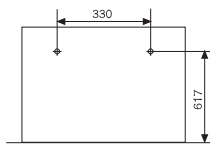

Figure.2
- According to the dimension of the Figure 2 shown nail two cement steel nails on the wall keep 2-3mm out, then hang the back of the unit on them.